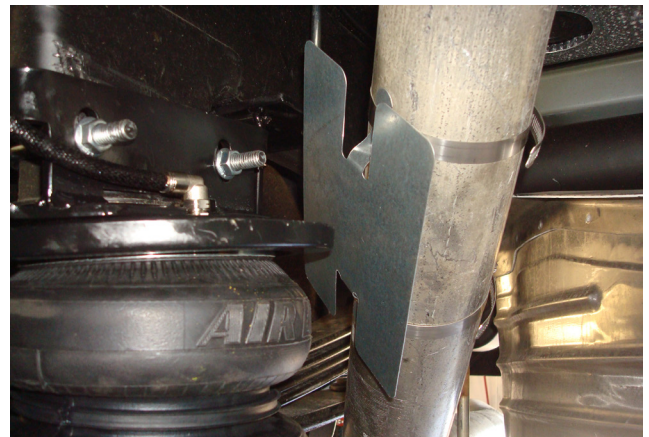

Fig. 28
3. Fig. 28 shows heat shield installed.